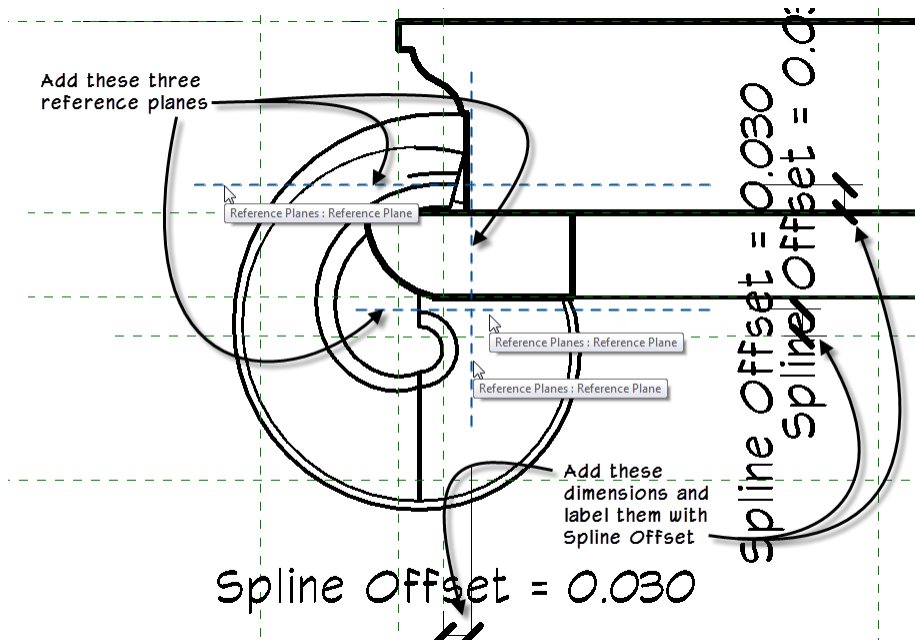

FIGURE 27—ADD NEW REFERENCE PLANES AND DIMENSIONS
6. Add three reference planes in the locations indicated in Figure 27.